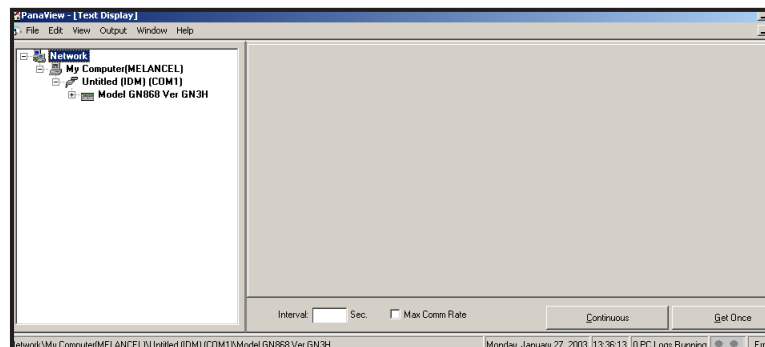

Figure 3: Text Display Window
3. Using the *Window* menu, arrange the open windows in the desired format. For this discussion, Figure 3 shows the *Text Display* window in its maximized (full-screen) size.
**Note:** Figure 3 has been compressed both vertically and horizontally for improved clarity.
5. Before actual data values can be displayed in the text pane, activate one of the following data collection modes (see Figure 3 on page 47):